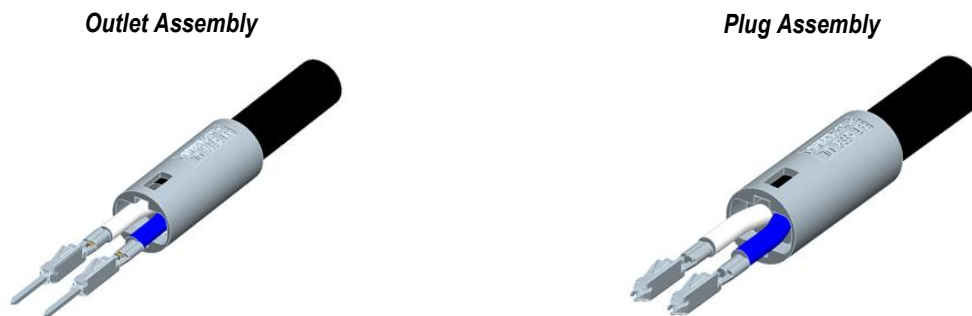

Figure 3
1. The contacts used for these connectors must be crimped onto the cable conductors using the tooling given in Section 5 of this specification. See Figure 3.